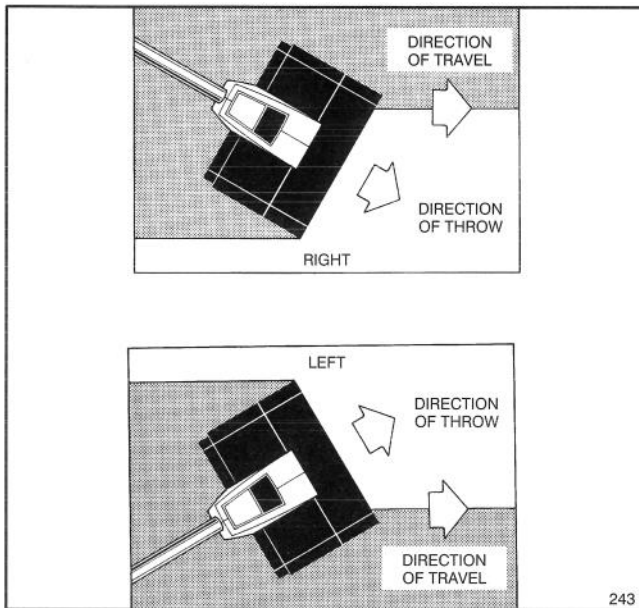

Figure 8
2. Direct the snow to the right or left by holding the Power Shovel at a slight angle (Fig. 8).